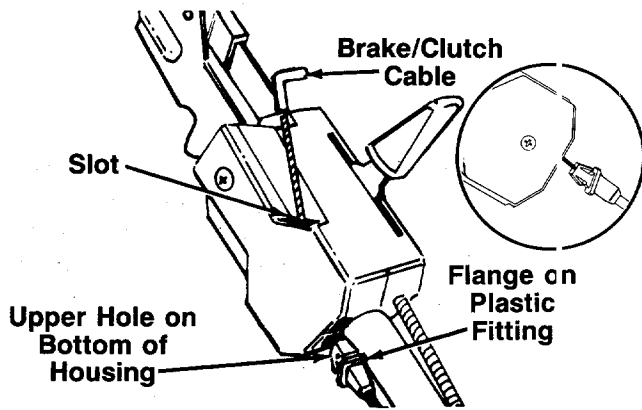

FIGURE 6.
1. Route the brake/clutch cable over the fuel tank mounting bracket and under the lower handle. Place end of cable into the upper hole on the bottom of the control housing, and through the slot on the side of the housing as shown. The angle of the plastic flange must be positioned downward as shown in figure 6. Be careful not to bend or kink the cable at any time.